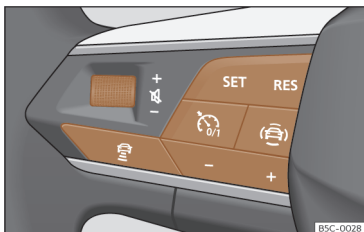

Fig. 171 On the multifunction steering wheel: buttons to operate the ACC
Your vehicle has ACC if it has a configuration menu in the infotainment system>>> page 92 and if it has the ACC function buttons on the multifunction steering wheel>>> **Fig. 171.** »
- To start regulation, press the button **SET** >>> **Fig. 171**.
To program the speed, press the + or - >>> **Fig. 171** buttons to the desired speed. The speed is adjusted at intervals of 10 km/h (5 mph).
- Press the button  and then the button + or - >>> **Fig. 171**.